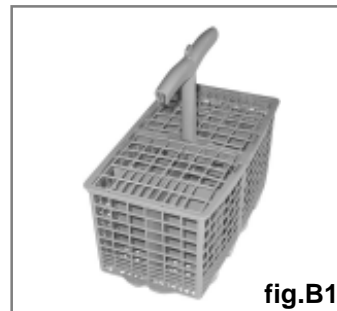
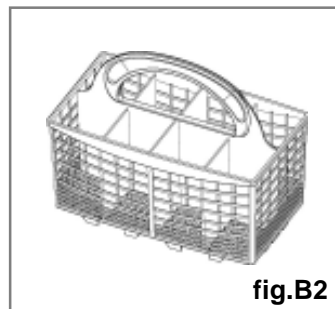

fig.B1
fig.B2
- Silverware should be placed in the silverware basket with the handles at the bottom; if the rack has side baskets, the spoons should be located individually into the appropriate slots. Especially long utensils should be placed in the horizontal position at the front of the upper rack.(figB1,figB2)
- The silverware basket can be doubled (see fig.B1) so that only one section may be used when the silverware load is light. This also makes space for additional pots and pans and it can also be placed in the upper rack.(for DW12-EBM4S)